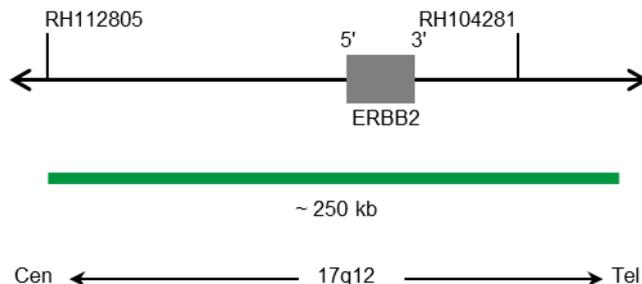

Fig. 1: SPEC ERBB2 Probe map (not to scale)
- Digoxigenin-labeled polynucleotides (~1.1 ng/ μ l), which target sequences mapping in 17q12* (chr17:37,725,661-37,973,541) harboring the ERBB2 gene region (see Fig. 1).